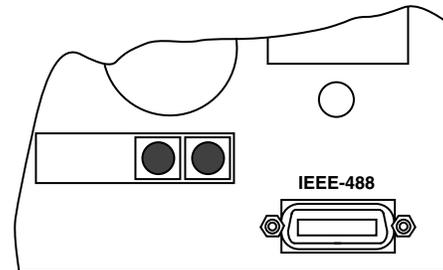

Figure 4-3
1. Line up the cable connector with the connector located on the rear panel. The connector is designed so that it will fit only one way. *Figure 4-3* shows the location of the IEEE-488 connector on the instrument.